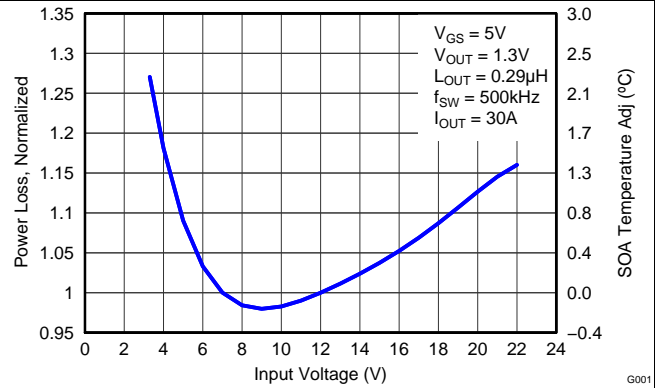

Figure 6. Normalized Power Loss vs Input Voltage
- Normalized Power Loss for input voltage ≈ 1.18 (Figure 6)
- SOA adjustment for input voltage $\approx 1.5^\circ\text{C}$ (Figure 6)